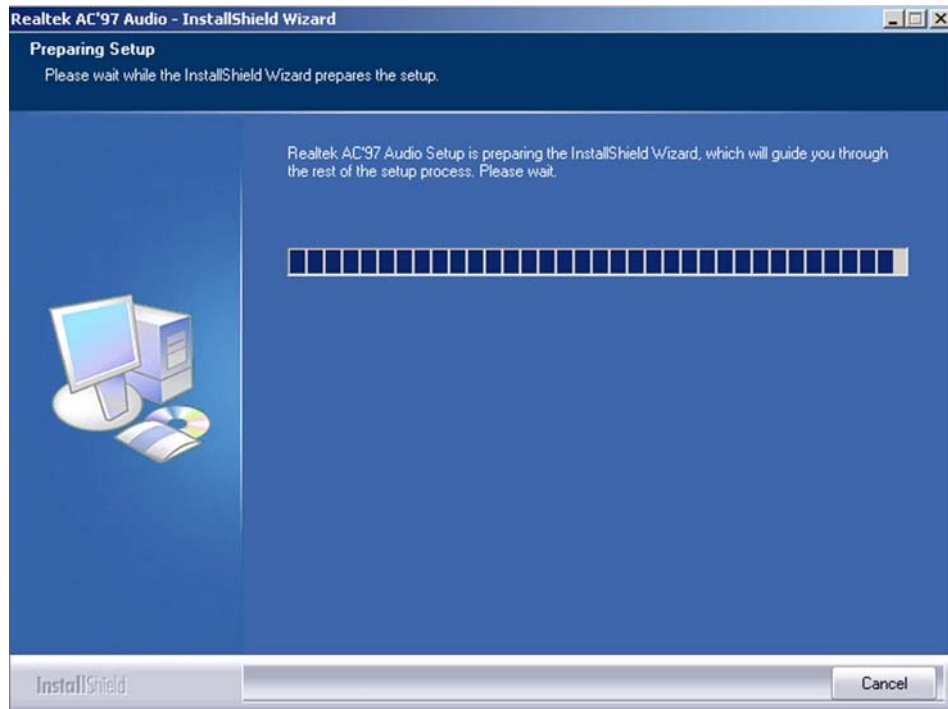

Figure 6-10: Audio Driver Setup Preparation
- Step 3:** The RealTek Audio Setup prepares the install shield to guide you through the rest of the setup process. See **Figure 6-10**.